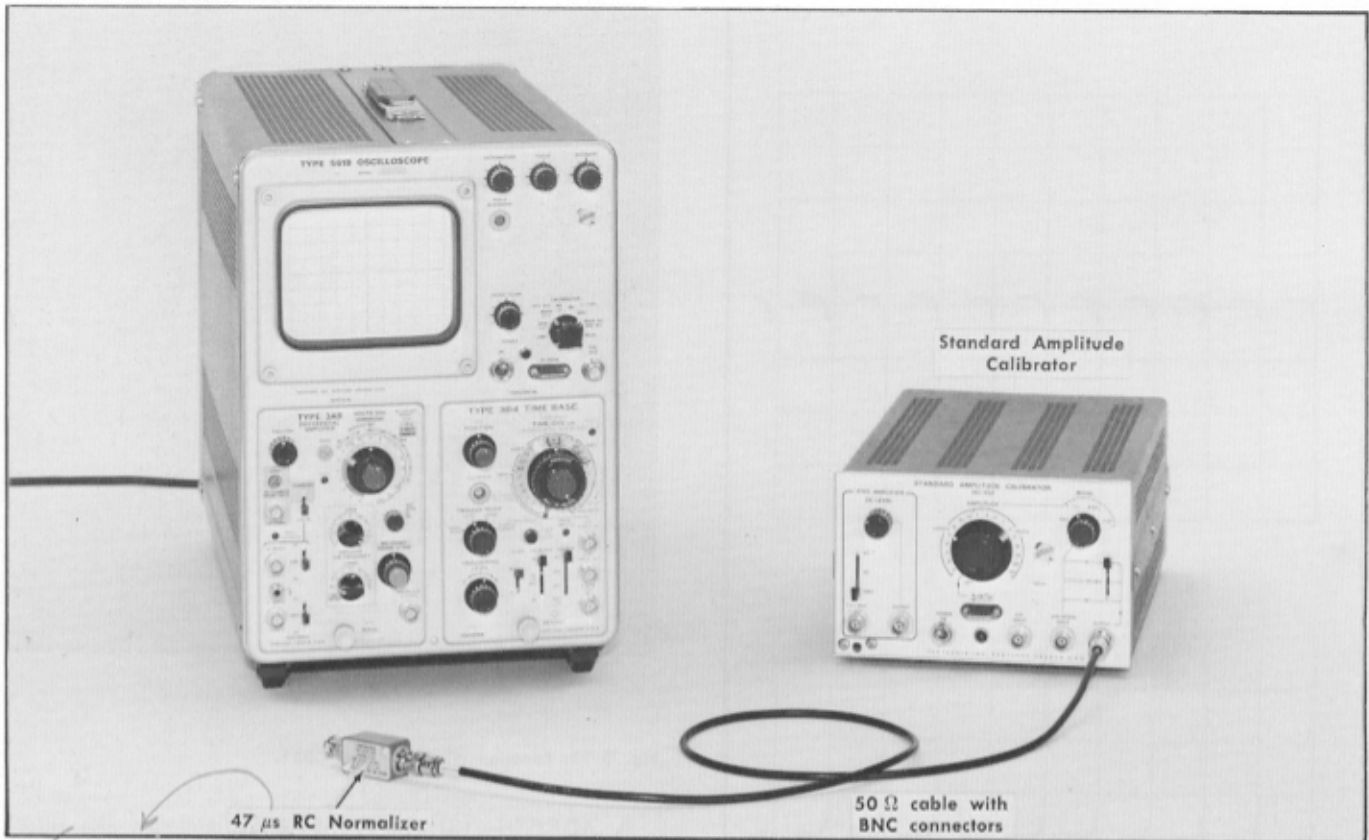

Fig. 5-14. Equipment required for steps 14 and 15.
- Test equipment is shown in Fig. 5-14.